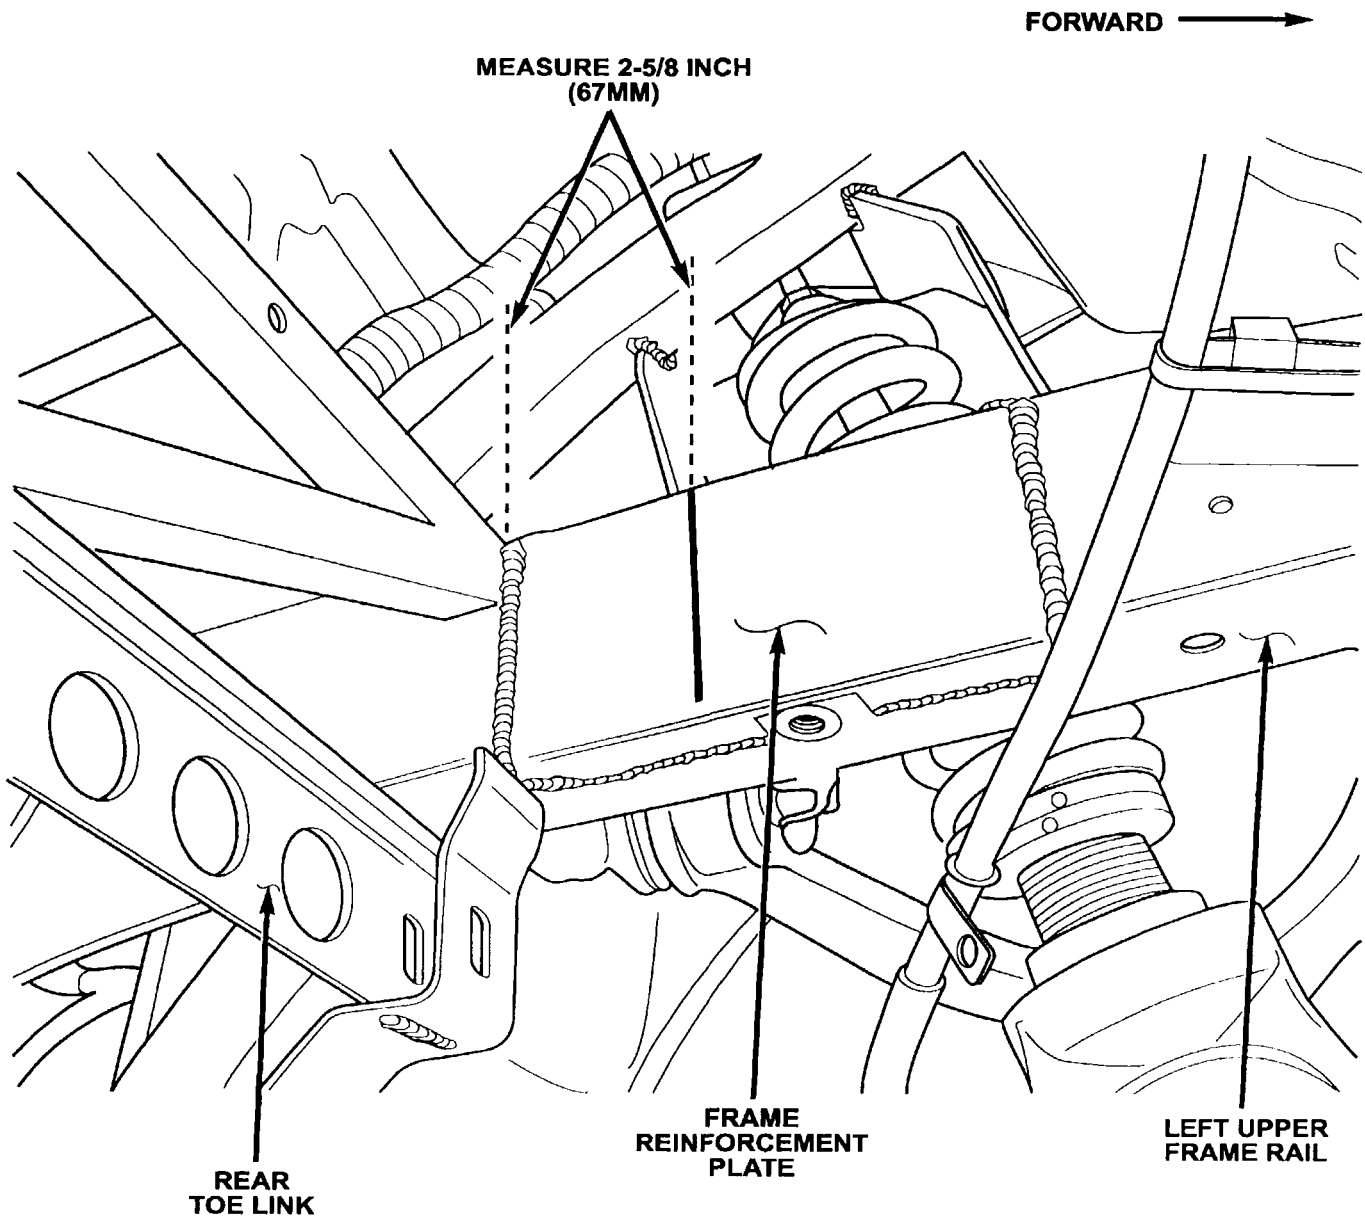

Figure 27
11. Measure forward from the rear frame brace 2-5/8 inches (67 mm) and then scribe a line as shown in Figure 27.